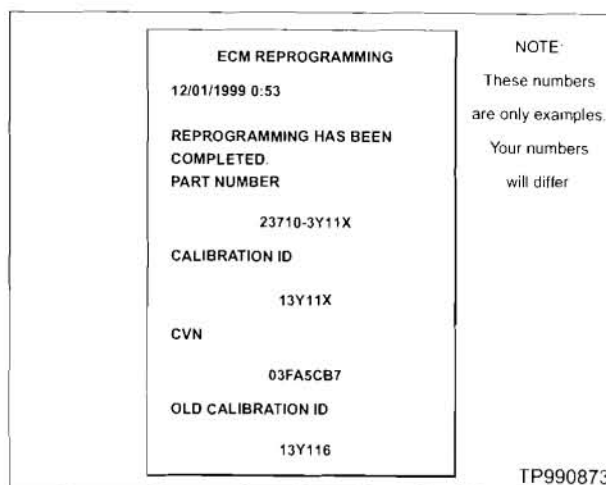

Figure A20
27. When the Reprogramming is complete, CONSULT-II will "beep", turn the screen backlight back ON and automatically print out a report (see Figure A20).